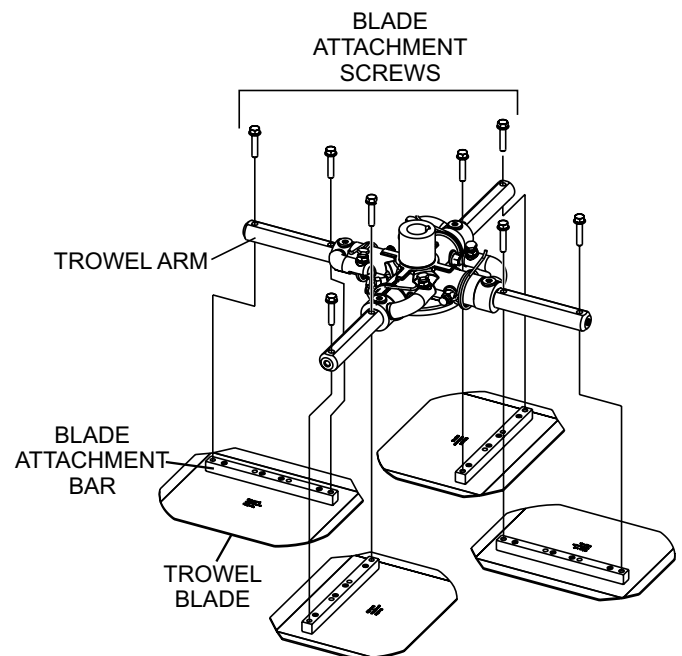

Figure 58. Blade Removal
2. Remove the bolts and lock washers from all the trowel arms, and then remove the blades as shown in Figure 58.